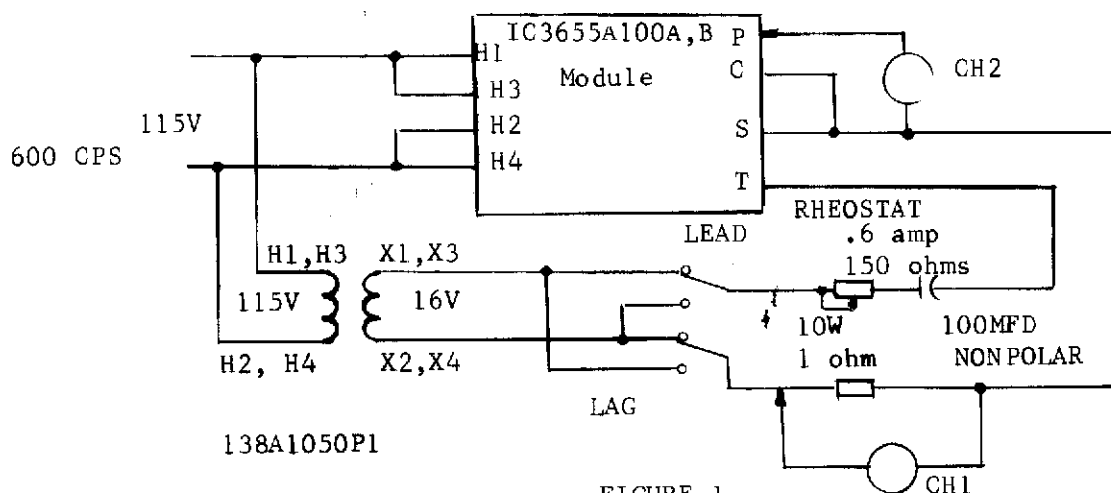

FIGURE 1
3. Measure voltage from SPFA pin 26 to pin 22. It should be +27 volts $\pm 2V$ with less than .1V P.P. ripple. Power factor meter should read 1.0 power factor and voltage N (34) to COM (22) should be +5 volts DC. Adjust R65 on SPFA card if necessary to obtain unity power factor and 4.7 to 5.3 volts. Record this voltage as V_N . Connect jumper from R to D.
4. Slowly turn TPF CW until relay drops out. This should occur when (6) to COM (22) is $V_N \pm .1$ volt. Position TPF knob on shaft so that pointer is opposite 1.0 PF when (6) to COM (22) reads the trip voltage. To reset remove AC for 10 sec. Repeat step 4 to see that relay now trips when TPF knob points to 1.0 PF and power factor meter reads 1.0 PF. Verify that power supply is still +27 volts $\pm 2V$ with less than .1 volt PP ripple. Remove AC power. Remove R (TB2) to D (TB2) jumper.
6. Connect circuit per Fig. 1. Jumper R (TB1) to D (TB1). Reapply power.